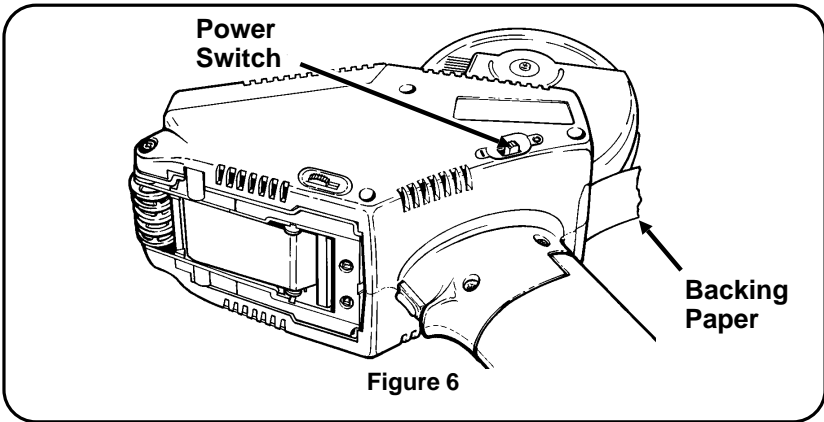

Figure 6
1. Open the dust cover until it locks (Figure 6).